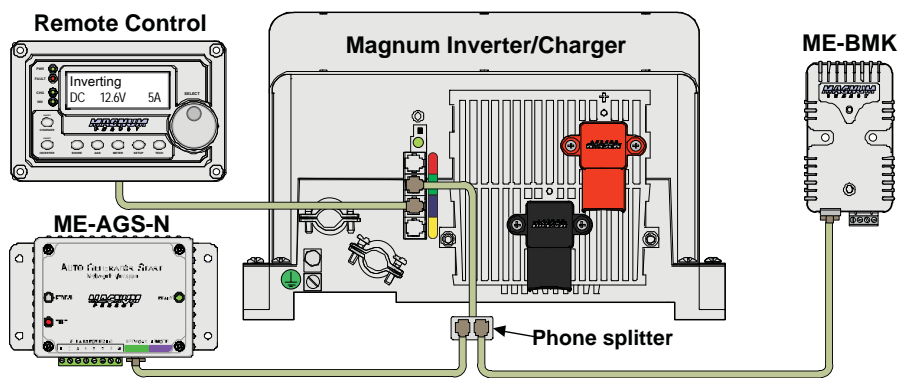

Figure 2-7, Multiple Network Devices – Star Configuration
- **Star Configuration** – In this arrangement, all the network devices connect to the inverter's Network port via a phone splitter, using individual cable runs (Figure 2-7). Since each device is independently connected to the inverter's Magnum Net or Network port, problems in a cable or a device can be easily isolated; and, if there is a cable failure to one device it does not bring down all the devices.